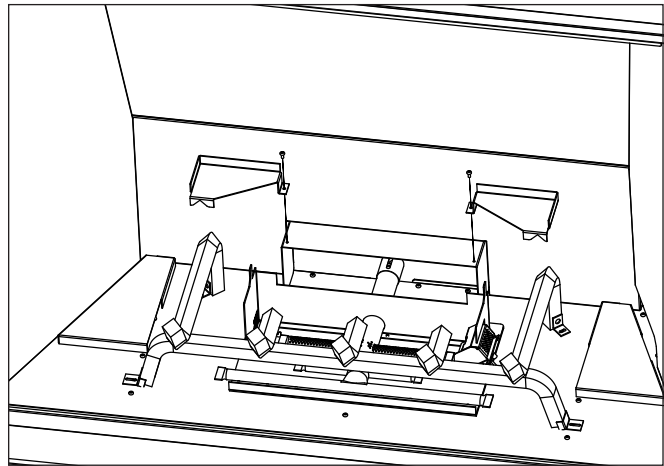

Figure 8: Log Mount Removal
5. Remove the Rear log mounts by unscrewing the 2 T-20 screws holding the mounts on (Figure 8)